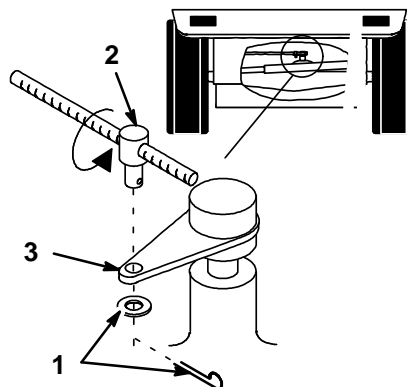

Figure 28
The brake lever is on top of the transaxle (Fig. 28). If the parking brake does not hold securely, an adjustment is required.
3. To adjust the brake remove the cotter pin and washer from the brake lever (Fig. 28).
4. Rotate the trunnion so it smoothly slides into brake lever (Fig. 28).
5. Secure trunnion to brake lever with washer and cotter pin (Fig. 28).